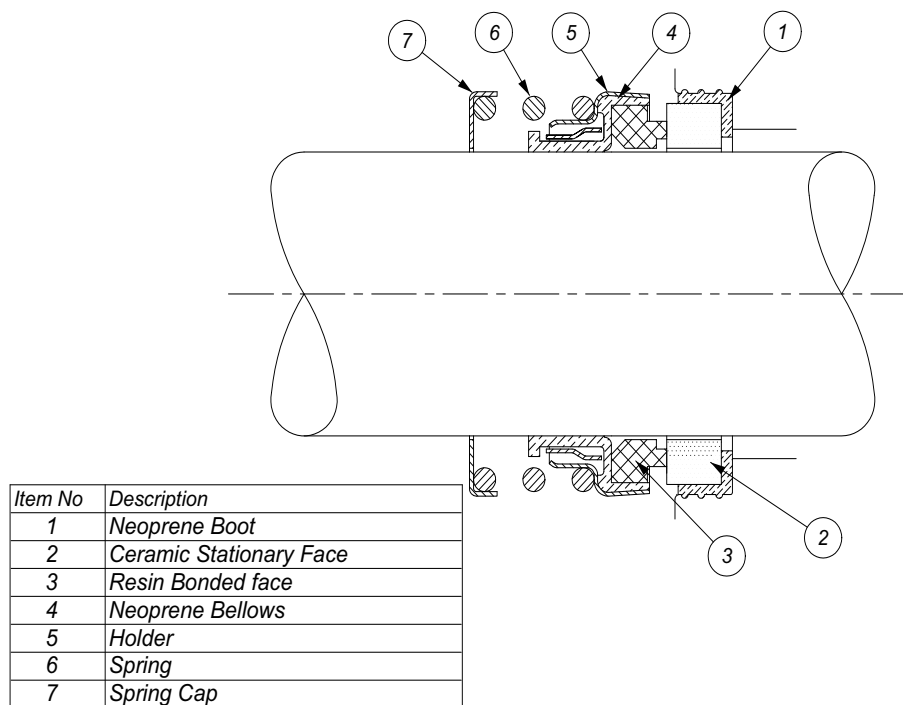
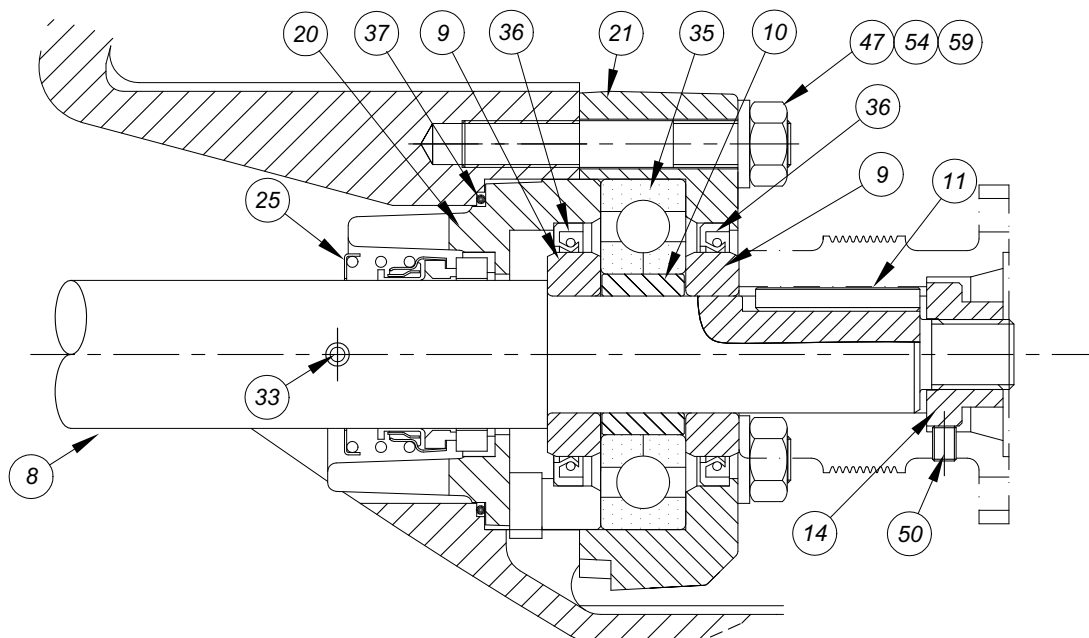

Figure 7: water seal
Figure 8: Bearing Assembly
3. Carefully replace the water seal parts onto the mainshaft in the following order :- spring cap [7], spring [6], Neoprene bellows [4] and rotating carbon face [3] as shown in Figure 7: "water seal".
6. Fit a new neoprene boot [1] and ceramic face [2] (**Refer to Figure 7: "water seal"**) to the rear of the seal face holder [20] and ensure that it is pushed fully home into the recess in the rear of the seal face holder.
Refer to section 8.8 "Threaded Fasteners" and section 8.9 "Recommended Oils and Lubricants" Also refer to Figure 8: "Bearing Assembly" and Figure 7: "water seal".